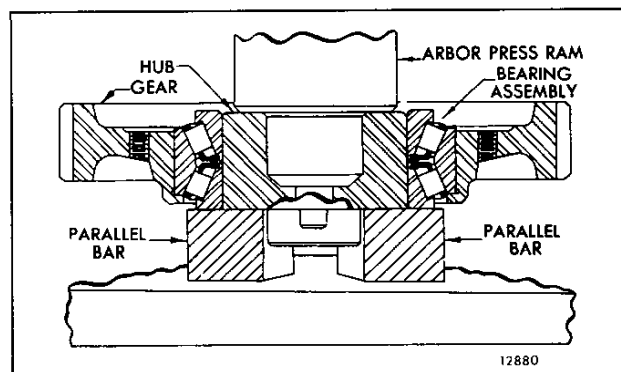

Fig. 9 – Pressing Hub into Bearing
6. Press the hub into the idler gear bearing cones, while rotating the gear (to seat the rollers properly between the cones), until the face of the hub which will be adjacent to the cylinder block end plate is flush with the corresponding face of the bearing cone. The bearing cones should be supported so as not to load the bearing rollers during this operation (Fig. 9).